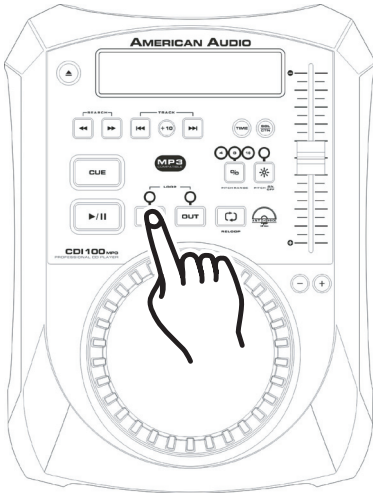

Figure 12
A cue point is the exact point playback will begin when the *PLAY/PAUSE button (11)* is pressed. You may set your cue points anywhere on a disc or in a track. There are two (2) ways to set and create a CUE point as detailed in figures 12 and 13.